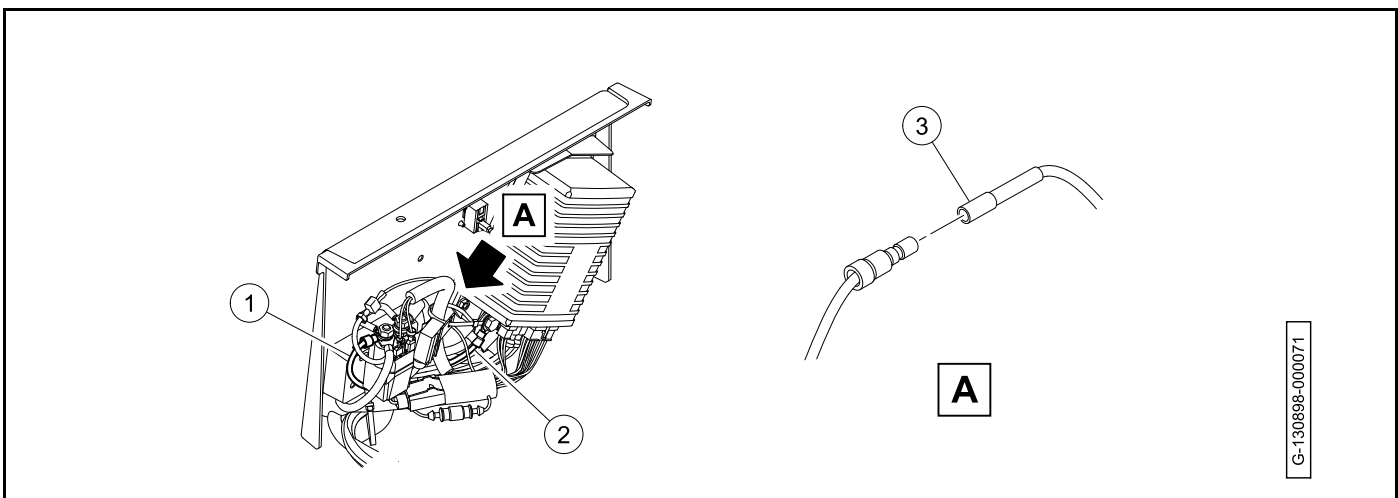

Figure 13-6
4. Connect the 10-gauge red wire (1) to solenoid (**Figure 13-6**). Tighten nut 72 to 84 in·lb (8 to 9.5 N·m).